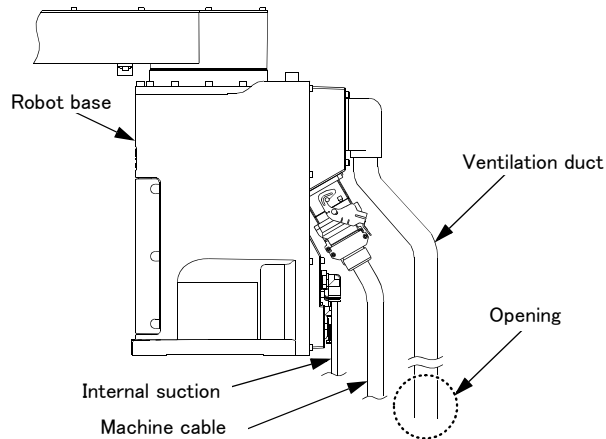

Fig.2-15 : Installation of Ventilation Duct
3) The ventilation duct is attached to the robot arm rear (refer to Fig. 2-15). As the Z axis moves up and down the volume of the bellows varies, and air is sucked in and released out of the robot's ventilation duct opening. Be sure to locate the ventilation duct's opening in a position that will not affect the robot's cleanliness.